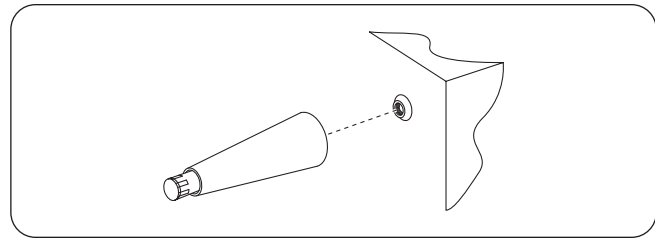

Figure 2. Installing the Legs
4. If the unit is equipped with legs, carefully lay the unit on its side and install the four legs as shown in Figure 2.